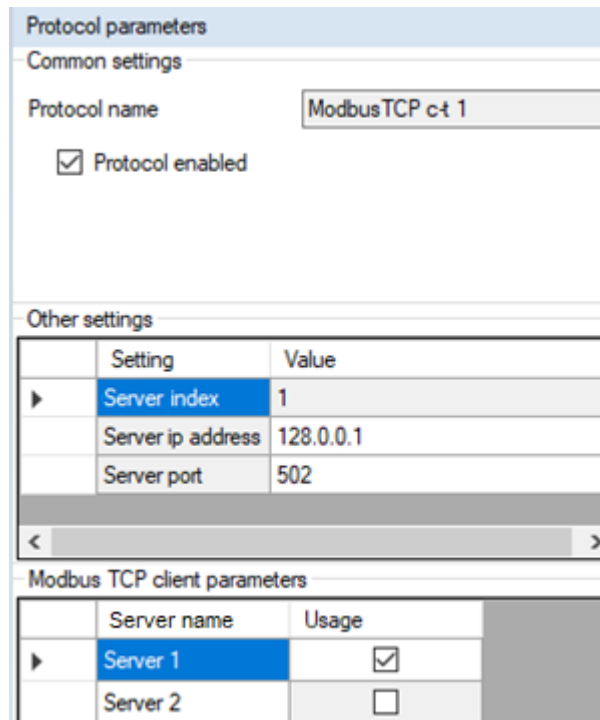

Figure 170 – Parameters of the ModbusRTU c-t protocol
5.3.4.4.5 Configuring the ModbusTCP c-t data transmission protocol (Modbus TCP client) (figure 170)